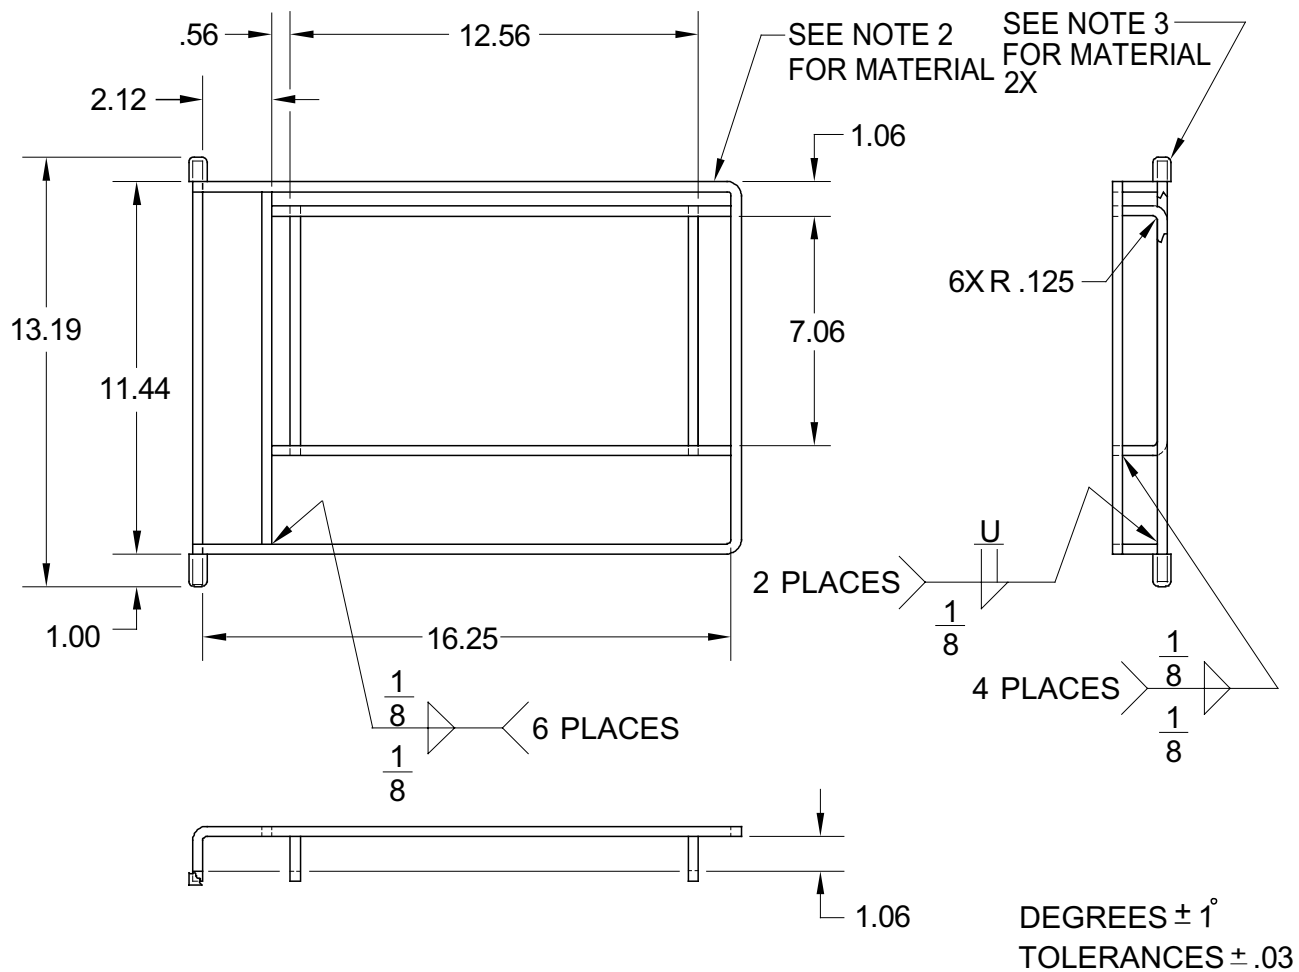

Figure L-3. Auxiliary Fuel Tank Bracket
- b. Fuel can bracket in accordance with Figure L-3.
NOTES TO FIGURE L-3: